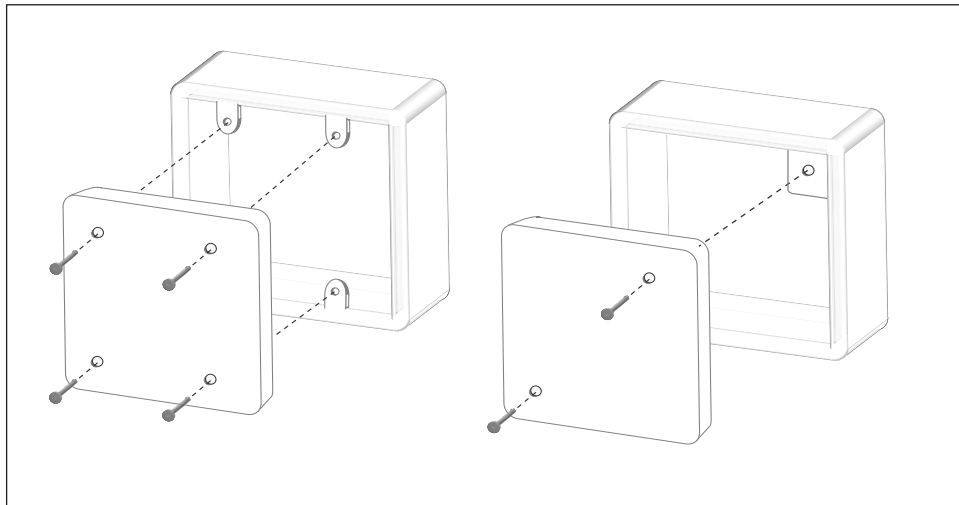

Fig 1. Mounting the Alpha Priority Monitor Module
2. Turn the fascia plate face down and locate the knock-outs corresponding to the threaded holes on the electrical box selected (Fig 1). With a small screwdriver and hammer, knock out these holes from the back of the fascia plate.